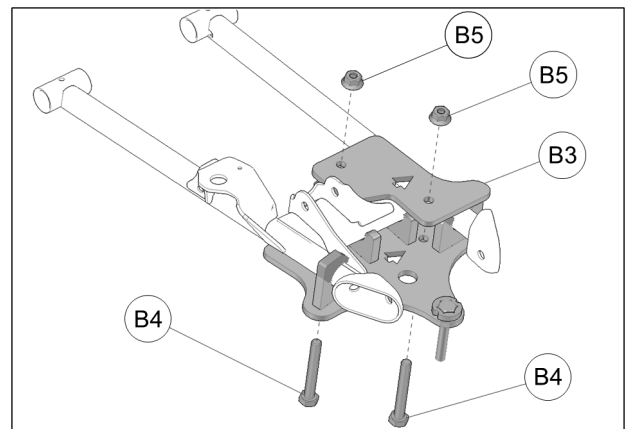

Fig. 8
7. Position anchor bracket cover (**B3**) over lower suspension arm. Insert M10x75mm bolts (**B4**) through bottom part and use nuts (**B5**) provided to assemble the two parts. See Fig. 8